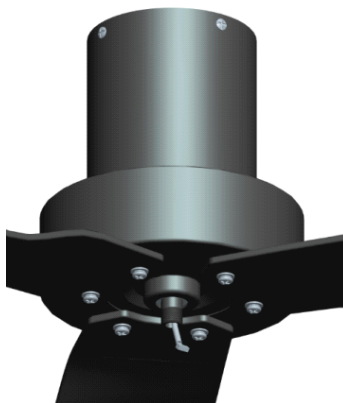

Fig 7.2
7.2 The installation of the blades is shown in the Fig 7.2.